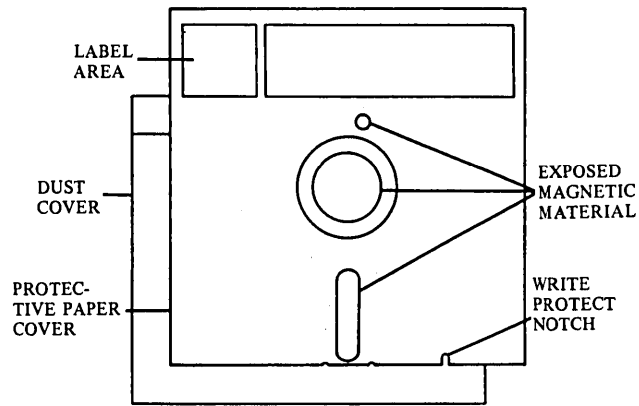

Figure C-4. 8-Inch Floppy Disk
- Figure C-4 shows the 8-inch disk and its main features.